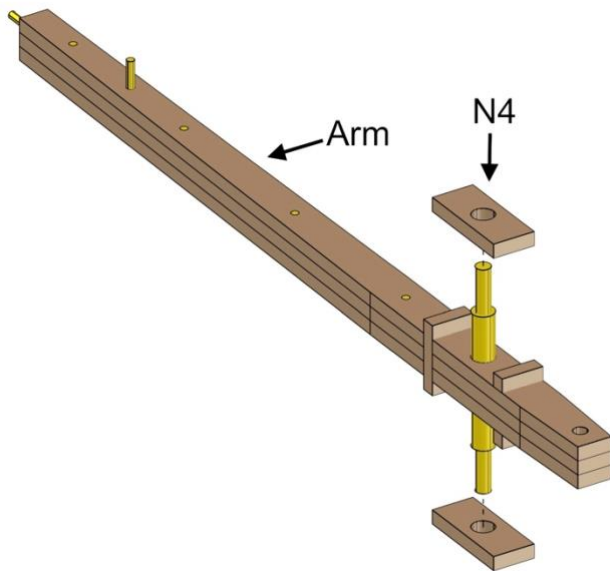

Fig. 69
- Align parts exactly as shown in Fig. 69.